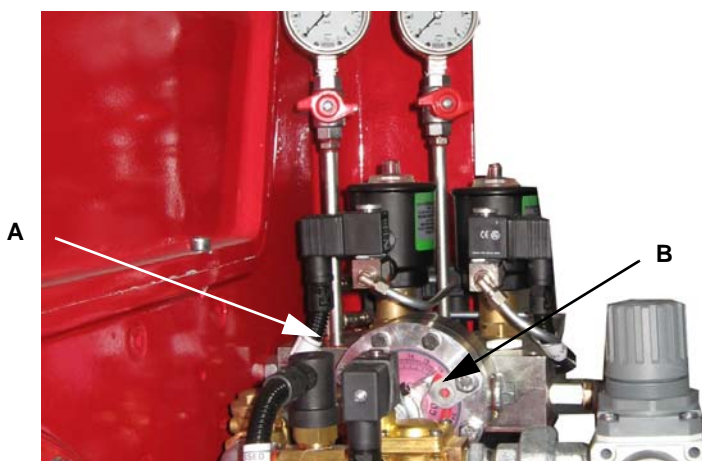

Fig. 24
- Remove and clean the compressed air governor **A** in Fig. 24
- Remove and clean the oil governor **B** in Fig. 24